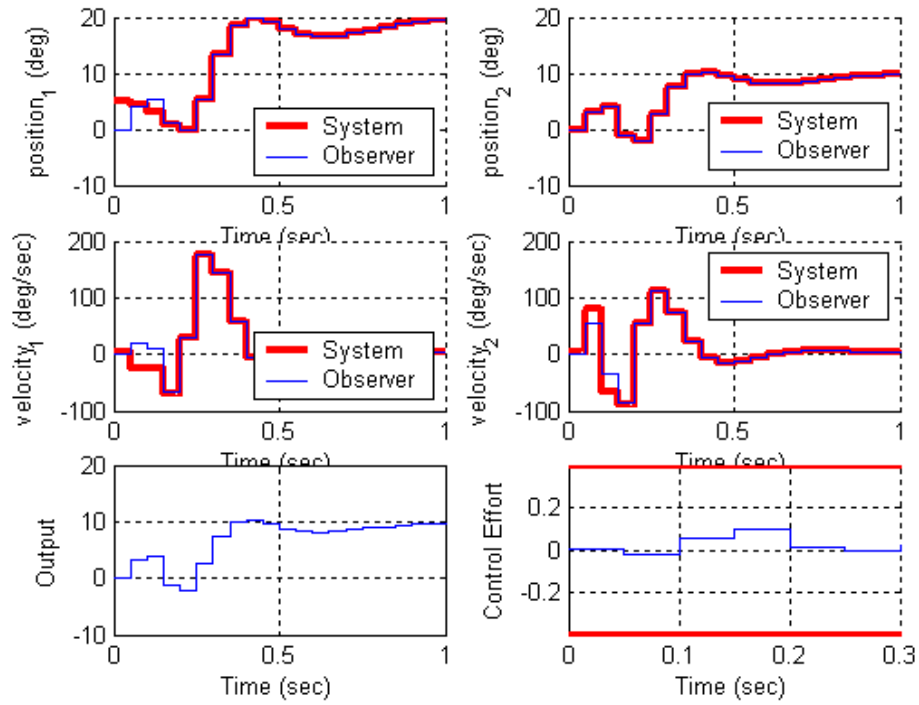

Figure 8. Results for problem 3c.
c) Same conditions as in **b**, but assume the output is the position of the second disk. For a 10 degree step input you should get the graph shown in Figure 8. Turn in your plot.